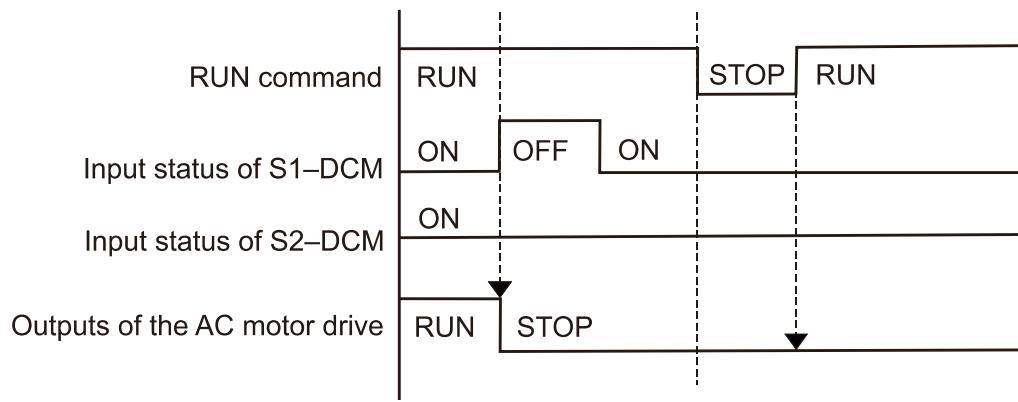

Figure 17-8
As shown in Figure 17-8, when S1–DCM is OFF during operation (STO function is required) and S2–DCM is ON (STO function is not required), the drive stops outputting and the keypad shows the STL1 error. However, you cannot reset the STL1 error even if the S1 status is restored (ON) regardless of the parameter setting. You must cycle the power to reset and to restore the drive to the normal standby state.